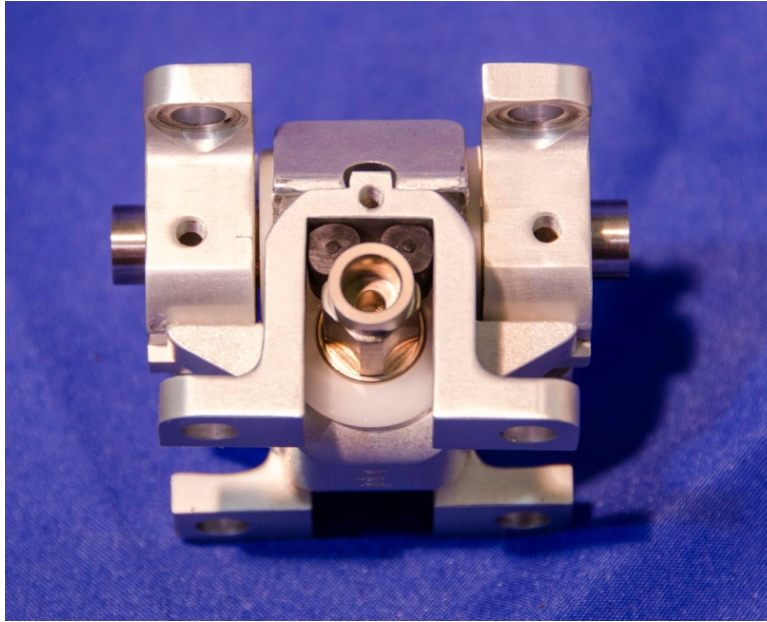

Figure 12-34. Insert torque cylinders into interior corners of torque cap
- 12.2.2.19 For ease of assembly, initially only insert two of the Torque Cylinders (472-7524), at the most interior corners of each torque cap (Figure 12-34).